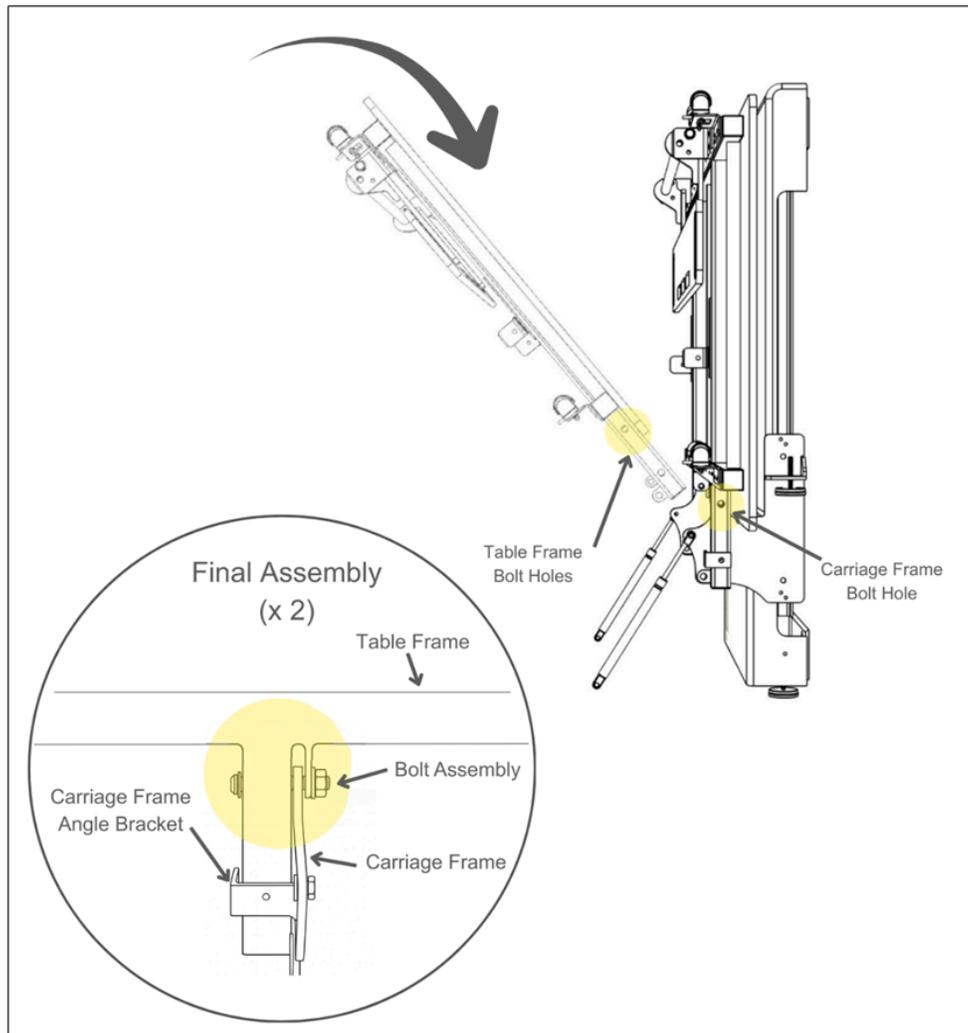

Figure 10 - Table Assembly Installation with Bolt Hole Alignment Locations
2. With two installers, lift the table assembly above the power unit assembly's carriage frame (refer to Figure 10).
5. With the table held in position, insert bolt and washer through the aligned carriage frame bolt holes and the table assembly bolt holes. Repeat on the other side of the table (refer to Figure 10).